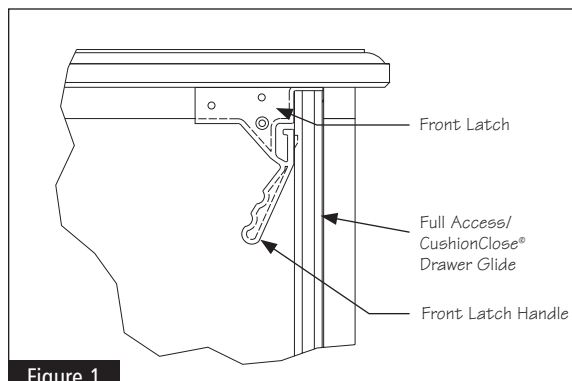

Figure 1
- 1** Determine which cabinet this unit will be installed in and remove existing drawer body from cabinet by pulling the black front latch handles on the bottom of the drawer (see Figure 1) toward the outside of the drawer body. Unscrew the drawer front from the existing drawer body, noting the bottom edge.
- 5** Verify that the front latches secure the glide (see Figure 1). Pull the drawer out fully and either visually confirm this or feel for full engagement of the glide into the latches. If the latches did not fully engage the glide, it is possible for the drawer to come out during use and possibly cause injury.